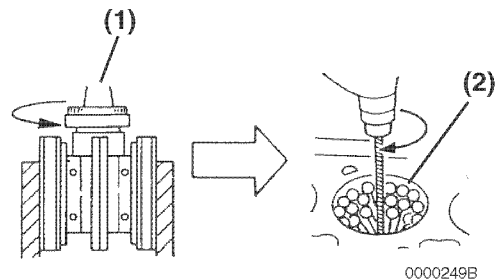

Figure 6-68
2. **Honing** - Minor cylinder imperfections may be corrected by using a rigid cylinder hone (**Figure 6-68, (1)**). Be sure not to exceed the maximum cylinder bore specification.
Deglazing - A used cylinder that did not require boring or honing, should always be deglazed with a ball hone (**Figure 6-68, (2)**) before installing new piston rings. This will properly prepare the cylinder surface to allow new piston rings to seat properly.
- Use a 300-grit hone at 300 - 1200 rpm (**Figure 6-68**).